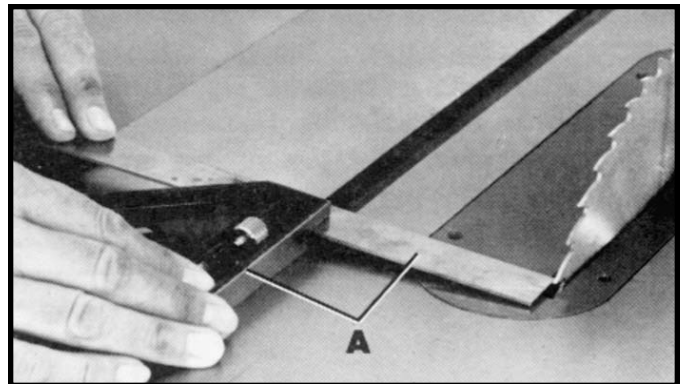

Fig. 111
2. Place a combination square (A) Fig. 111, on the table with one edge of the square in the miter gage slot, as shown, and adjust the square so the rule just touches one of the teeth on the saw blade at the forward position, as shown in Fig. 111. Lock the square in this position.